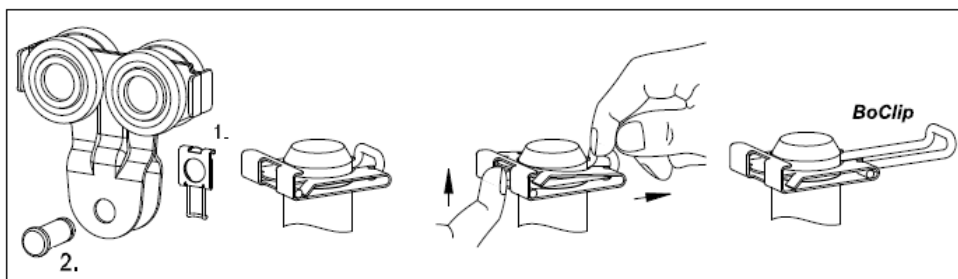

fig. 71
2. Remove the block clips **1** (instructions in fig. 71) and remove the suspension pins **2**
2. Remove the block clips **1** (Instructions in fig. 71) and remove the suspension pins **2**